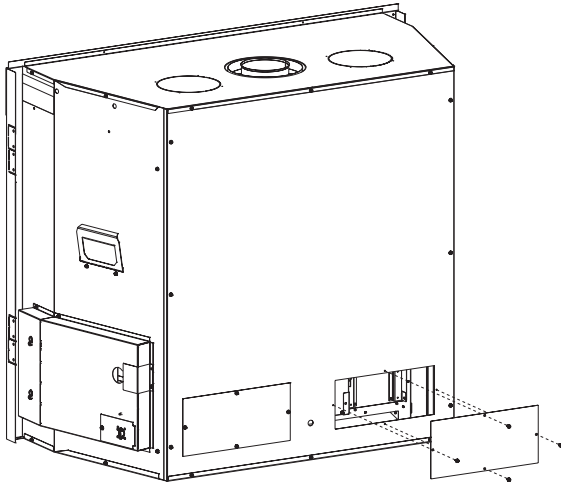

Figure 2
1. Remove Blower Access Panels (**Figure 2**).